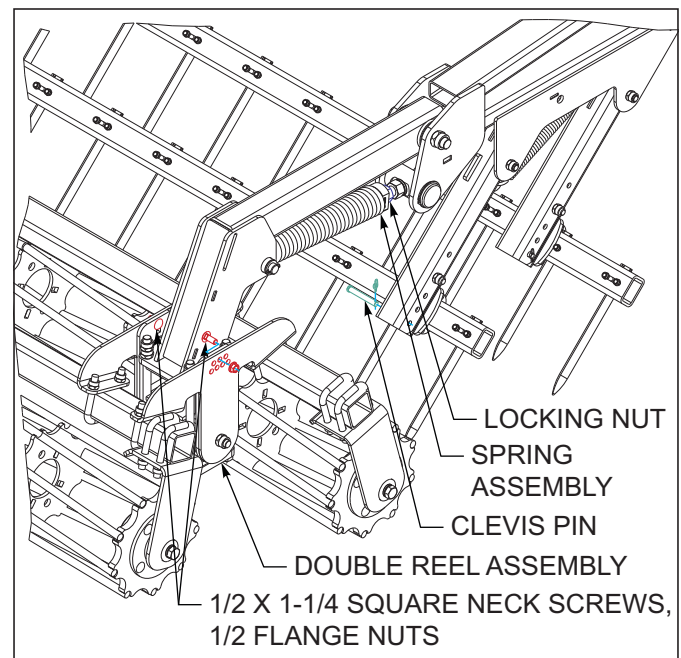

Figure 4-25: Spike Tooth Angle & Reel Adjustment
3. To change the spike tooth angle *See Figure 4-25*, raise the finisholl so the harrow is off the ground. Remove the clevis pin at the lower end of each spike bar arm. Moving the pin to a higher adjustment hole will make the spike teeth stand more vertical and be more aggressive. Moving the clevis pin lower will allow the spike tooth to lay flatter and not as aggressive. Set the clevis pin adjustment the same for each end of the spike bar. Front spike bars may be set different than rear bars if desired.
6. Use the rear spring assembly to adjust the height of the of the double reel assembly *See Figure 4-25*. Initially set the reels to run approximately even with the bottom of the finisholl sweeps. To adjust the reel height, loosen the locking nut against the front of the spring assembly and the locking nut against the 2-1/2 dia adjustment pin. Rotate the head of the adjustment bolt to raise or lower the reel assembly. Retighten the locknuts against the spring end and the spring pin. Make sure the reel heights are set so the reels are even across the back of the finisholl.
7. The double reel assembly may also be adjusted for front-to-rear pitch *See Figure 4-25*. The reels should run approximately level front-to-rear while working in the field. If ground conditions are very loose, or the reels try to push dirt, it may be necessary to run the front reel slightly higher than the rear reel. To change the reel pitch, lower the reels so they are just above the ground to prevent uncontrolled falling. Remove the two round head square neck $\frac{1}{2}$ x 1-1/4 screw and flange head nuts from each arm assembly. Rotate the double reel assembly to the desired pitch, and reinstall the screws. Adjust the reel pitch the same for all harrow sections.